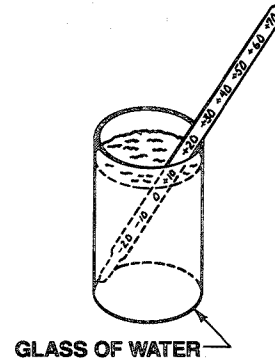

Figure 3
- g. In refrigerator section, place thermometer in a glass of water and place in middle of refrigerator. Wait 5-8 hours. If temperature is not  $38^{\circ}$  to  $40^{\circ}\text{F}$  ( $+3^{\circ}$  to  $+4^{\circ}\text{C}$ ), adjust the control, one number at a time. Check again after 5-8 hours. See Figure 3.